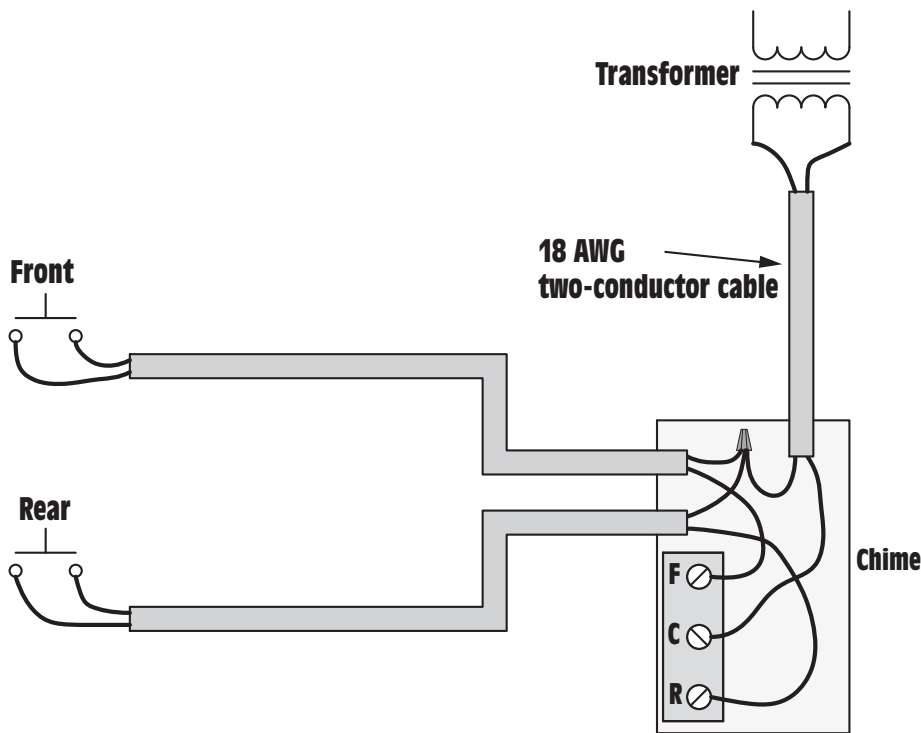
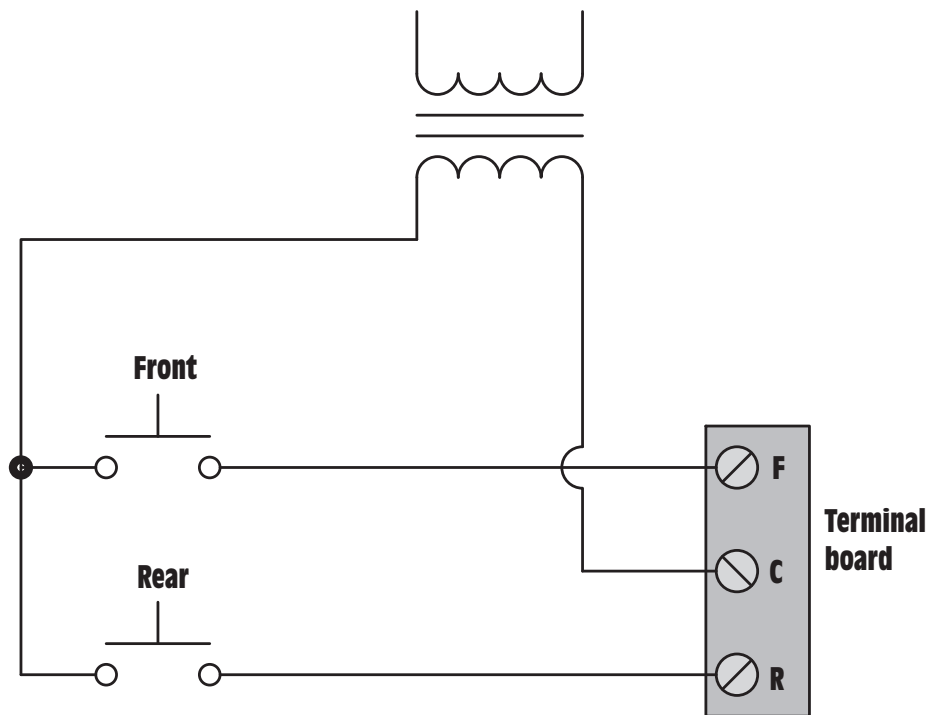

Figure 16-25 18-AWG two-conductor cable is used for low-voltage chime circuits.
Figure 16-26 Schematic diagram of a chime circuit with two pushbuttons.
is connected together to form a common terminal. A basic connection for a chime circuit with two pushbuttons is shown in *Figure 16-25*. Chime circuits are generally made using 18 AWG two-conductor bell wire. The two-conductor cable is brought for the transformer and each pushbutton to the chime. Connection is made inside the chime. One side of the transformer is connected to the common terminal on the terminal board. The other side of the transformer supplies power to one side of each pushbutton. The other side of the pushbutton is connected to the appropriate front (F) or rear (R) terminal on the board. A schematic diagram of this basic circuit is shown in *Figure 16-26*.